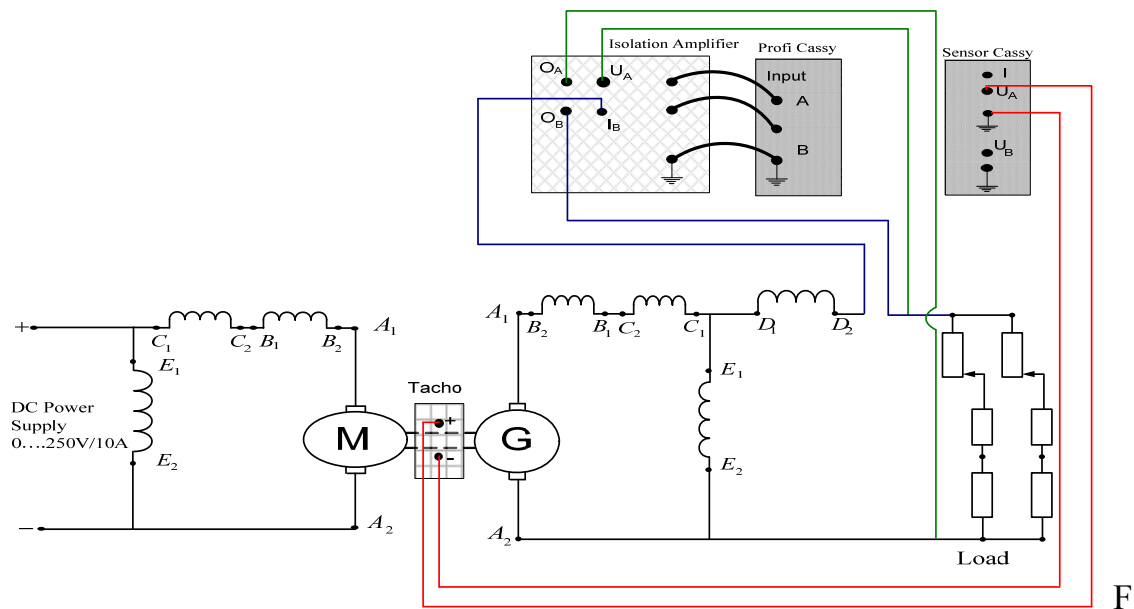

figure 3: Cumulative Compound DC Generator Set Up
27. Connect the circuit as shown in Figure 3. Note that at this stage the load resistance value has to be at 100%.